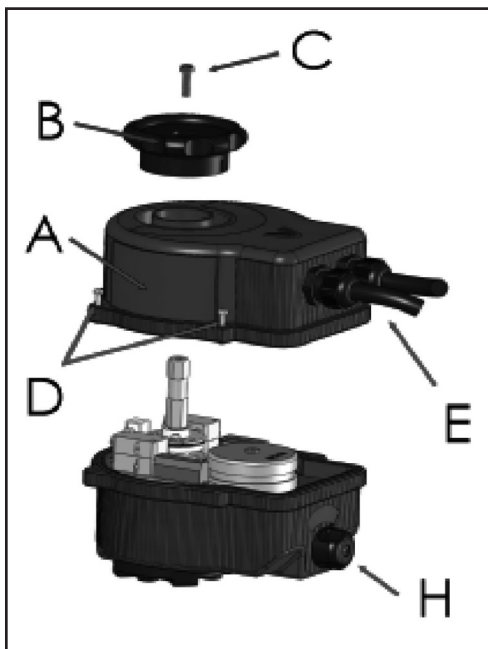

Fig.1 External view of actuator
4.1 Opening of actuator (fig.1)
4.7 Electric actuator case closing (fig.1)